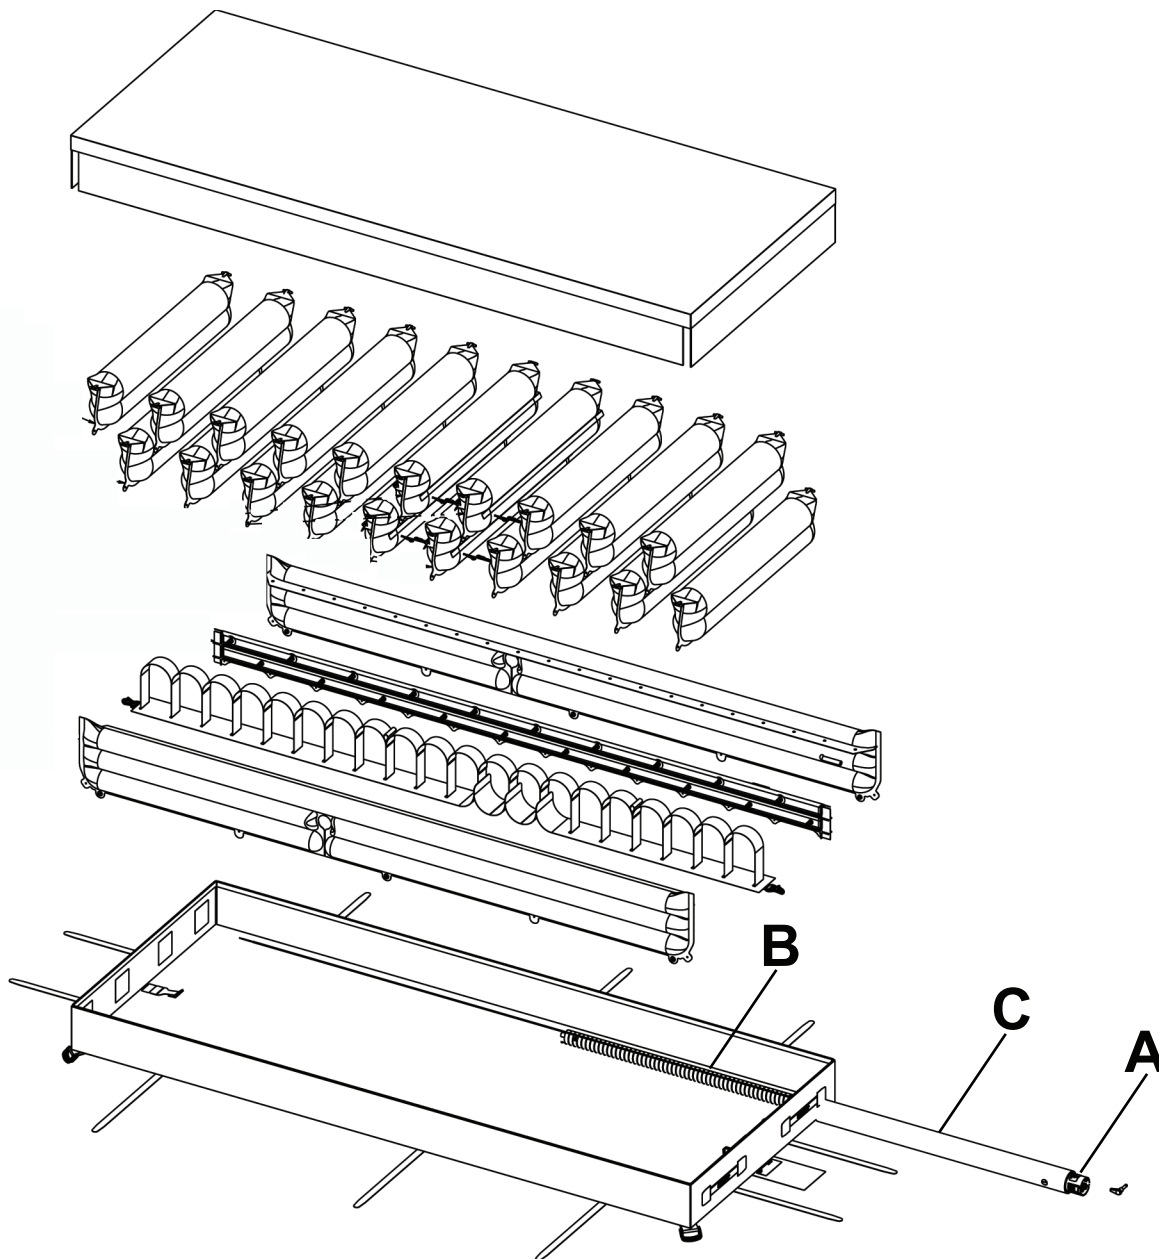

Figure 14 – Hose/CPR connector
10. Remove the hose/CPR connector (A) and the four hoses (B) from the bottom support surface cover hose sleeve (C) (Figure 14).